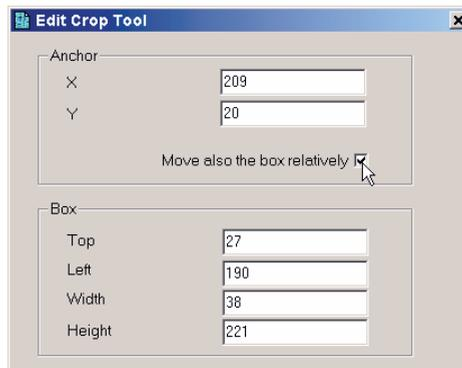

Figure 5-7. Edit Crop Tool.
- 4 You can also use the **Edit** option from the **Crop** tool drop down menu in the toolbar. This opens an **Edit Crop Tool** window as shown in Fig 5-7. Directly modify the values for the anchor and the box dimensions in this window. You can also check the option called **Move also the box relatively** that allows you to change the box position by moving the anchor, while maintaining the same separation distance.